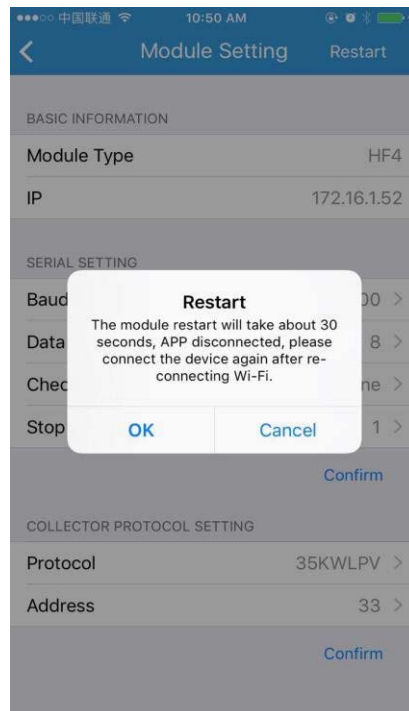

Figure 11
4. Module restart. Click on the Restart in the upper right to restart the module, as shown in Figure 11.